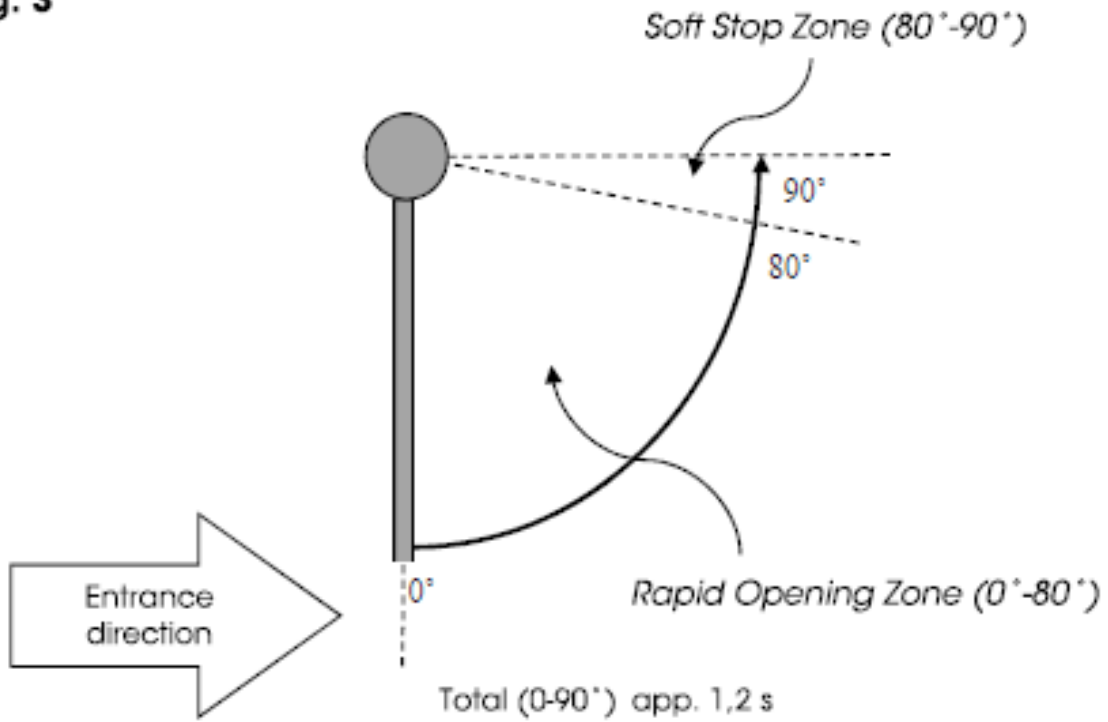

Fig. 2
- Mark the drilling points using the mounting plate of the automatic gate. (See Fig. 2)